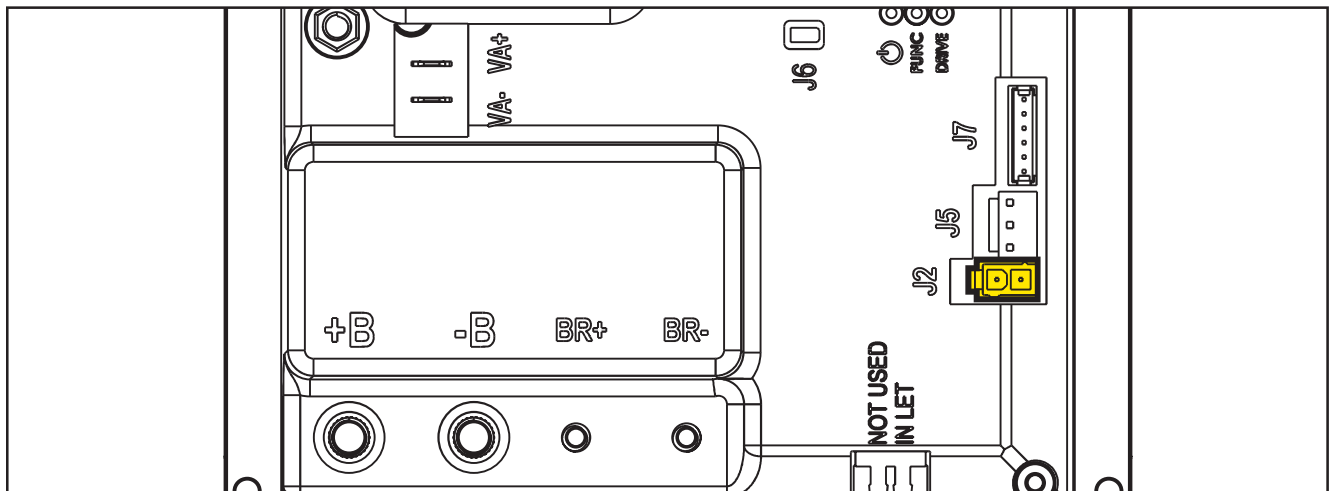

Figure 23:
**(Figure 23) J2: MOLEX MINIFIT type, 2-ways vertical**